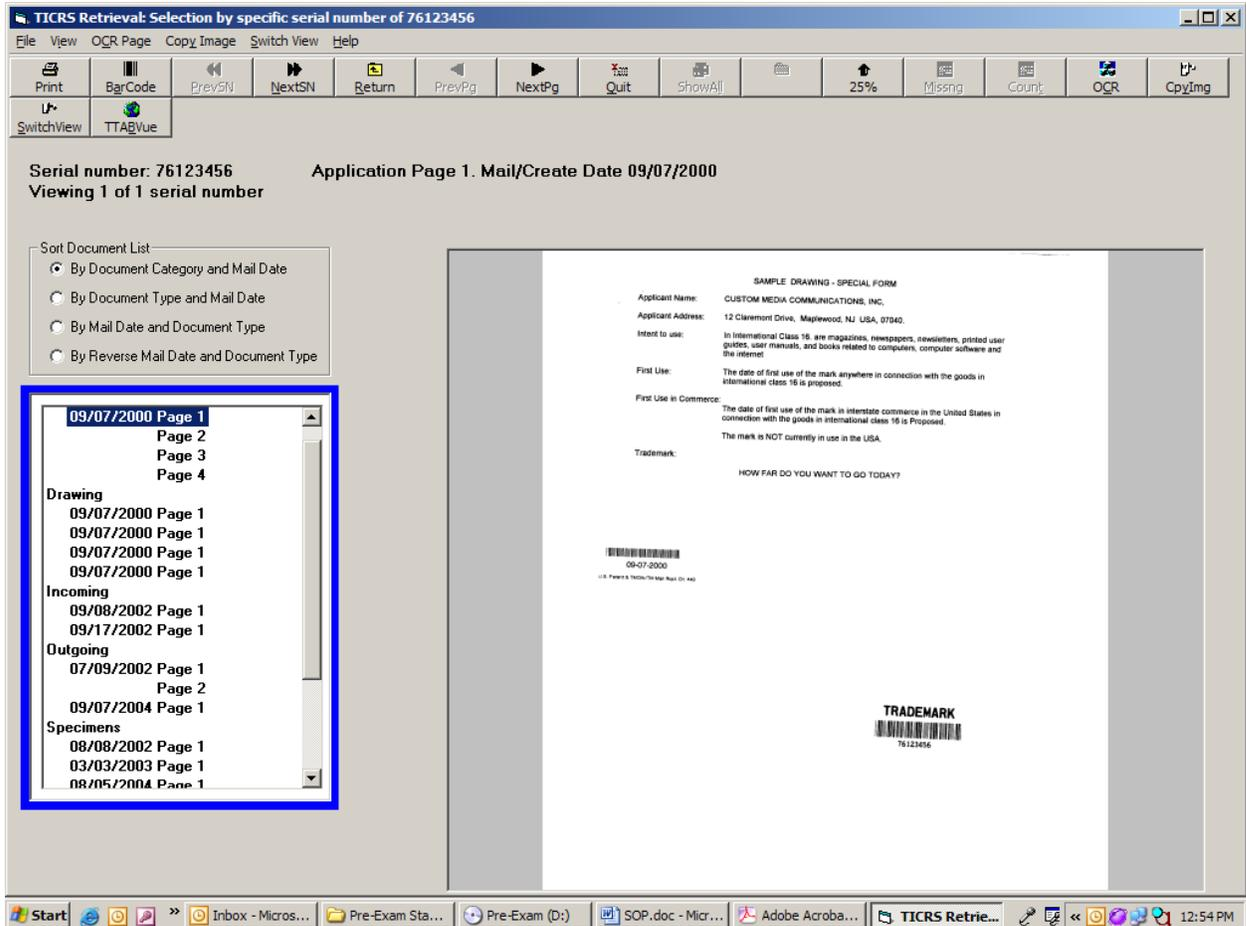

Figure 1-12: Pages in the Electronic File in TICRS
Step 3: Click the “Press to Retrieve data” button to open a single trademark application and click on a page in the appropriate section to view a page of the electronic file (Figure 1-12).